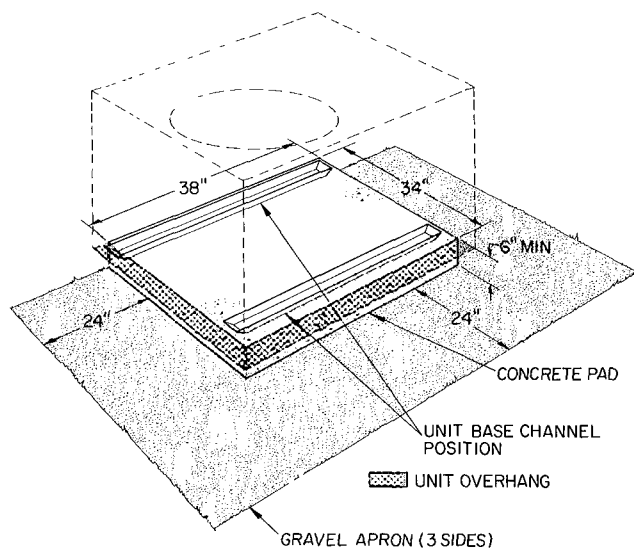

Fig. 2 – Concrete Pad Dimensions
Step 3 – On the Ground: Mount Unit on a Solid, Level Concrete Pad. See Fig. 2 for pad dimensions. Ensure pad does not obstruct coil slots in unit base pan. (Slots drain water during heating cycle). Construct pad a minimum of 6 in. thick to provide clearance under base pan coil slots for drainage and ice buildup. In areas where prolonged subfreezing temperatures, drifting or heavy snows occur, increase clearance to 12 to 18 inches. If climatic conditions dictate, construct an angle iron frame to support unit 12 to 18 in. off concrete base. Cross angle of frame must not obstruct base pan coil slots. Extend a 24-in. gravel apron around pad for condensate and defrost water drainage field.